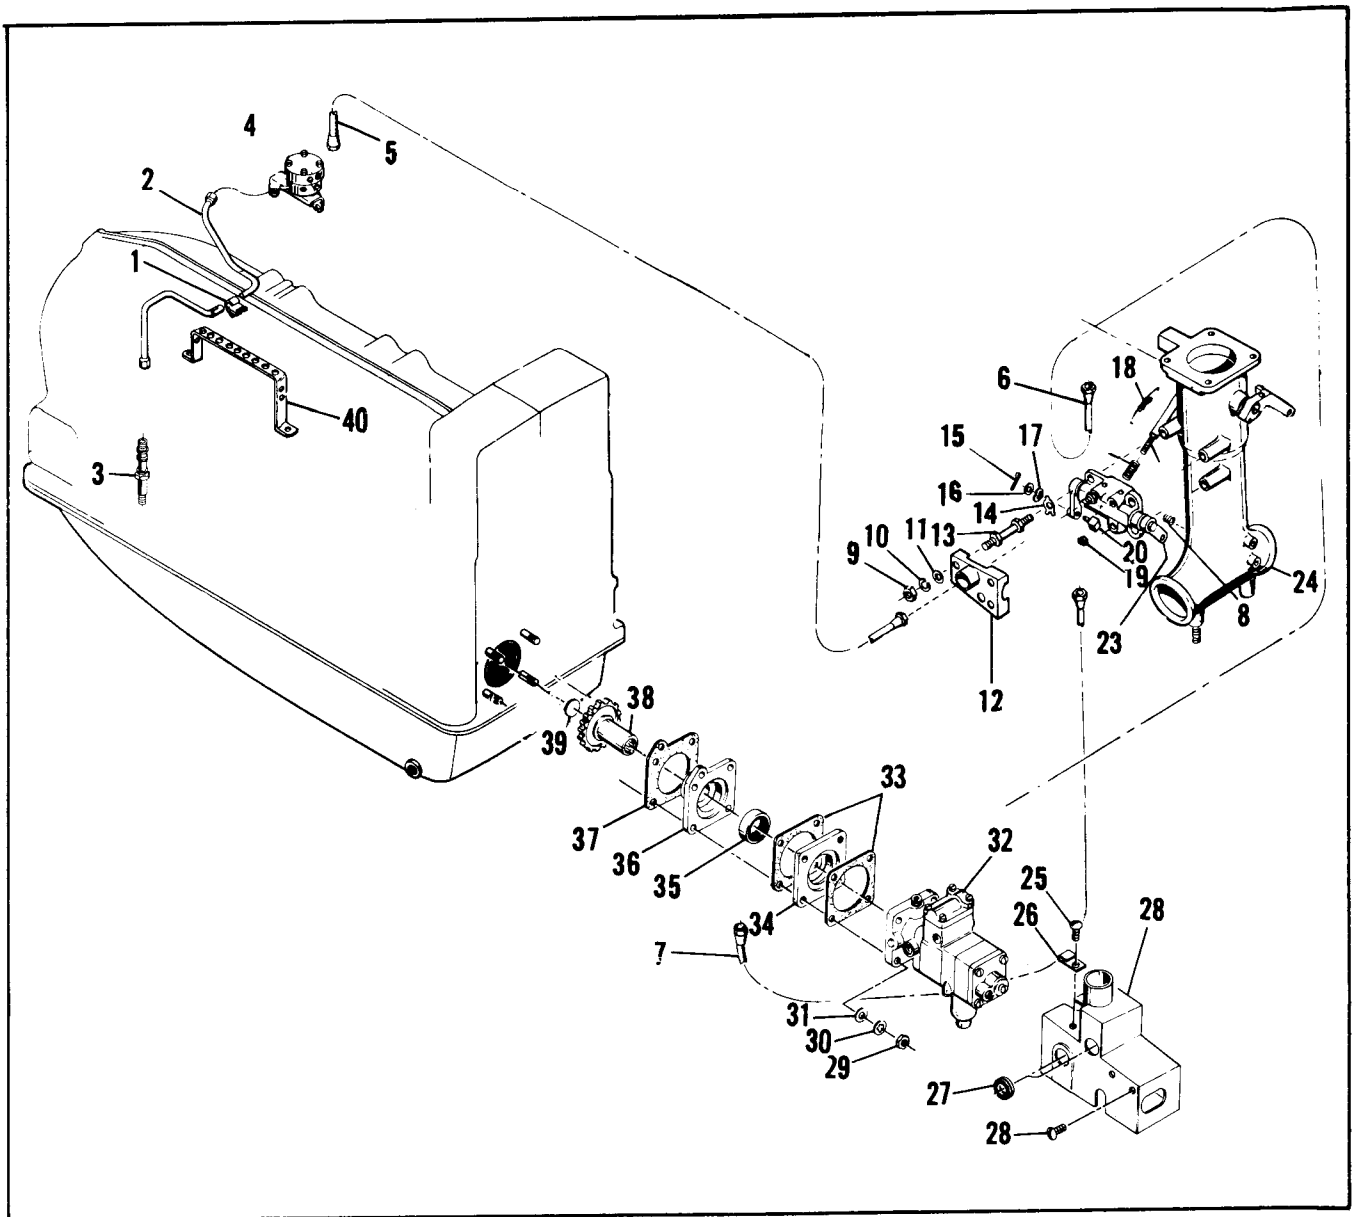

FIGURE 4-7. FUEL INJECTION SYSTEM, TS10-520-C, G & H.
4-15. FUEL INJECTION SYSTEM, TSIO-520-C, G & H (See Figure 4-7).
- a. On the 1-3-5 crankcase, remove four sets of attaching parts (1,2,3), cover (4) and gasket (5).
- b. Remove three sets of attaching parts (6,7,8), one set of attaching parts (9,10,11), bracket (33, Figure 4-7), adapter (12) and gasket (13). On the permold engine, remove the external oil filter bracket. If the AC filter is used, the Red Seal filter does not require bracketing. With the aid of an arbor press, remove bushing (14) and seal (15) from adapter.
- c. Remove magneto and accessory drive gear and sleeve assembly (16,17), magneto drive coupling bushings (19) and retainer (18).